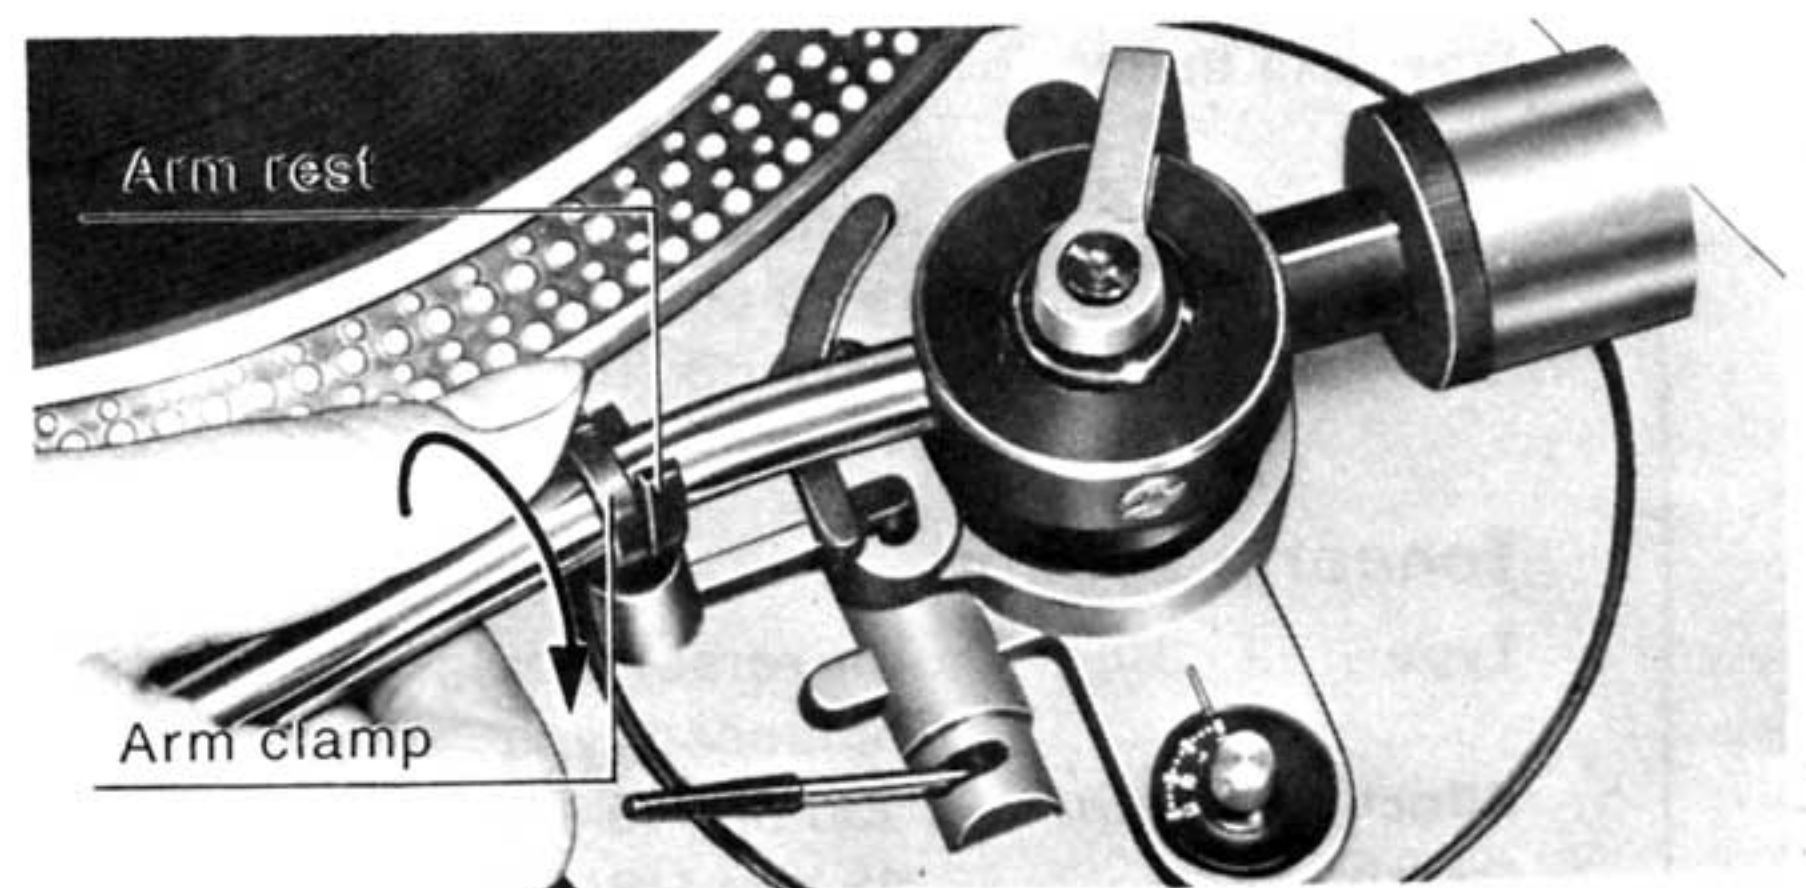

Figure 7
3. Release the arm clamp (Fig.7) and detach the tonearm from the arm rest to free the tonearm.
- 2 RELEASE THE ARM CLAMP. (Refer to Fig.7)